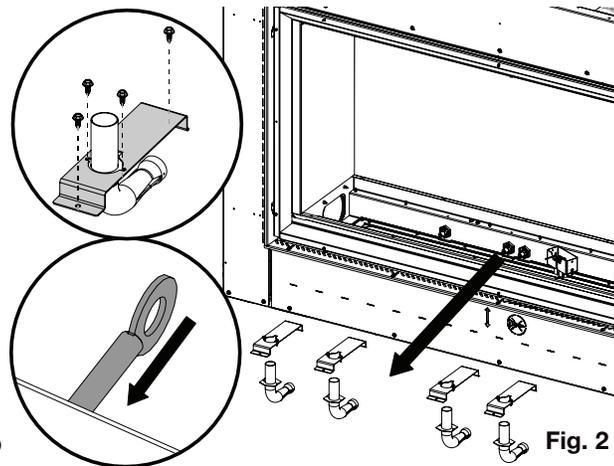

Fig. 2
- 8. Uninstall each log burner venturi by removing 2 screws from each bracket. Remove existing NG log venturis from the brackets and replace with the provided LP venturis, re-attach the brackets (**Fig. 2**).